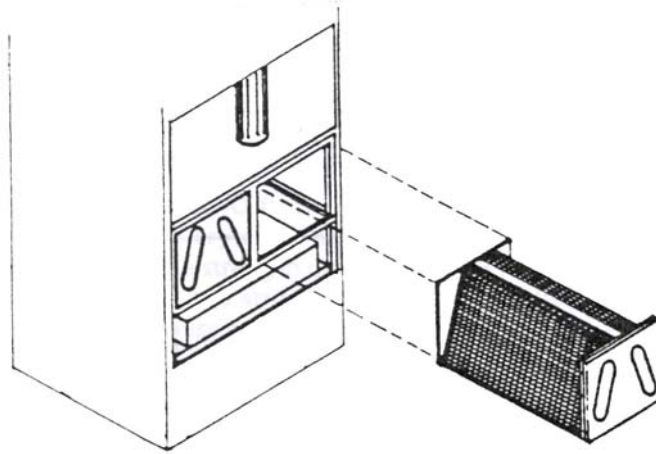

Figure 2: Module Position for Installation Into Horizontal Unit.
Step 9: Insert the module into the unit according to the airflow direction shown on the airflow label and as illustrated in Figures 2, 3, 4. Caution: When inserting the module, take care not to disturb the gasketing guards against air by-pass around the modules.